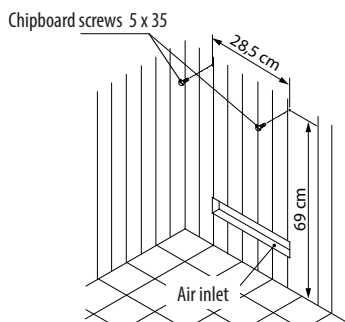

Fig. 3
1. Tighten the 2 sheet metal screws to the cabin wall according to the measurements in fig.3 and keep a 3 mm gap between screw head and wall.
3. Fit in the sauna heater to the screws with the suspension slits on the rear side (fig.3)